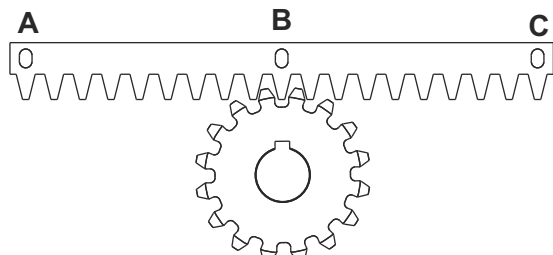
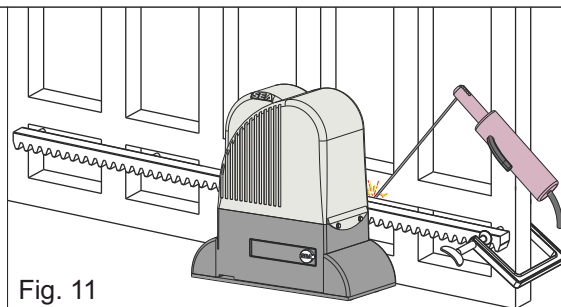

Fig. 10
Fig. 11
5.3. Lean the gear rack element on the toothed pinion of the operator in parallel to the ground slideway of the gate, as shown in Fig. 10 and weld the central pawl **B** to the gate structure - Fig. 11.